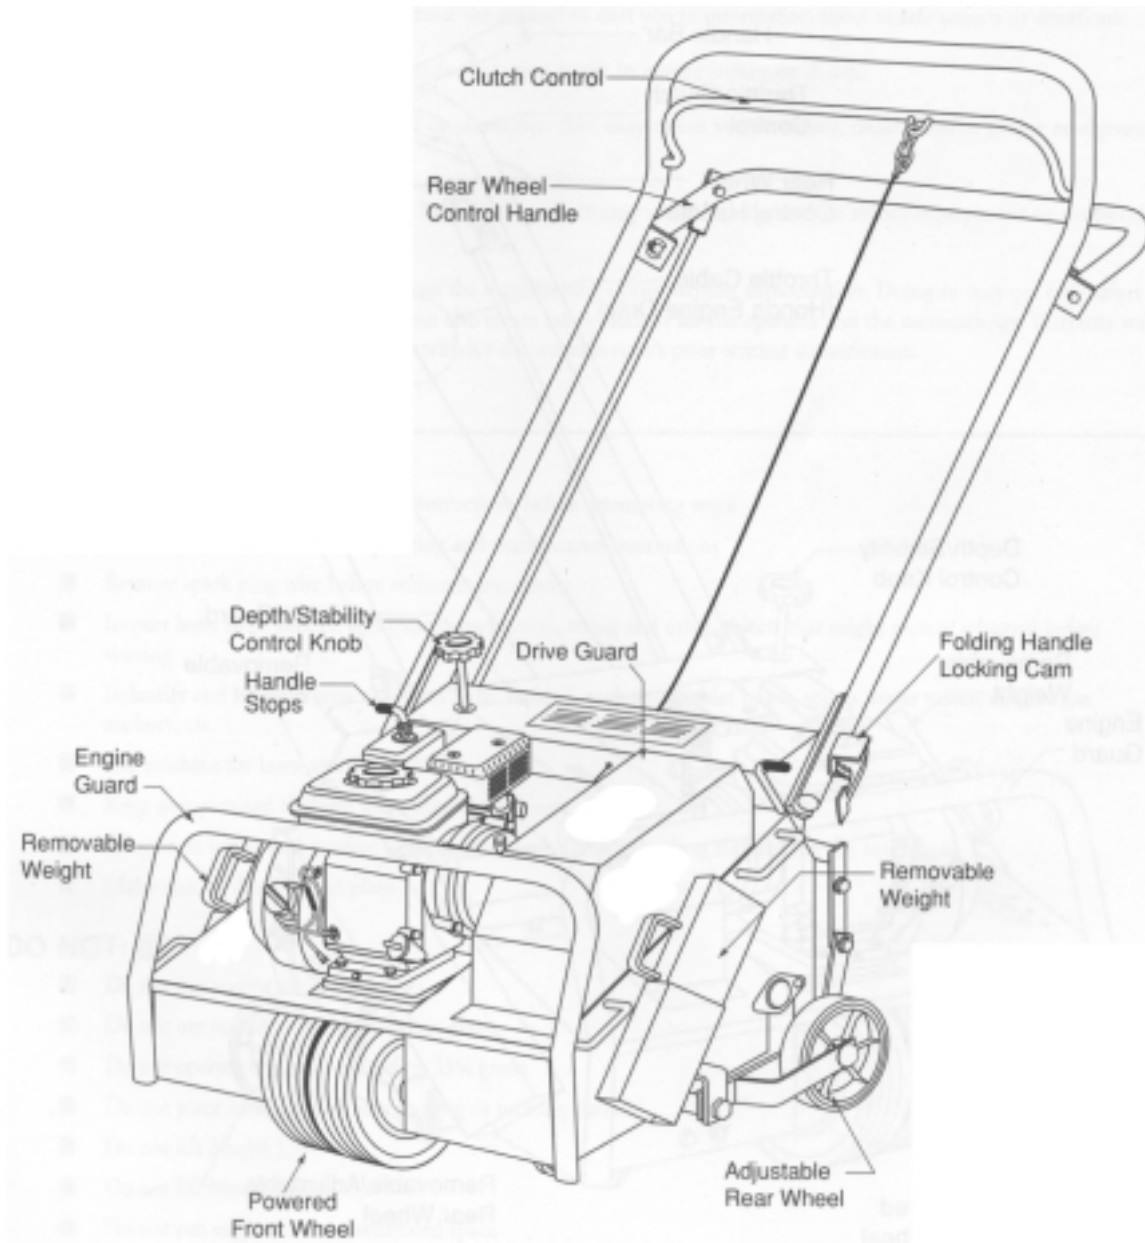

Figure 1
2. Adjust depth control knob (see Figure 1 or 2) to desired depth. Coring depth decreases by turning the knob clockwise. NOTE: by raising the rear wheels all the way up (to obtain maximum coring depth) you will reduce the unit's stability but increase length of core.